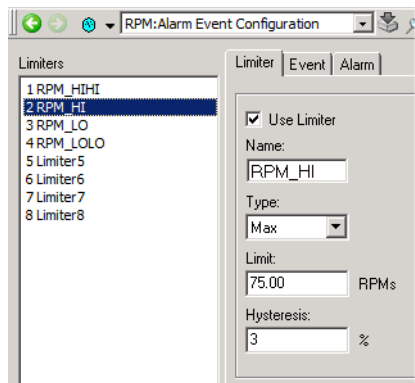

Figure 17. Example, Completed Limiter List
8. Repeat steps 2-7 to configure up to four limiters. An example of a completed limiter list is shown in Figure 17.